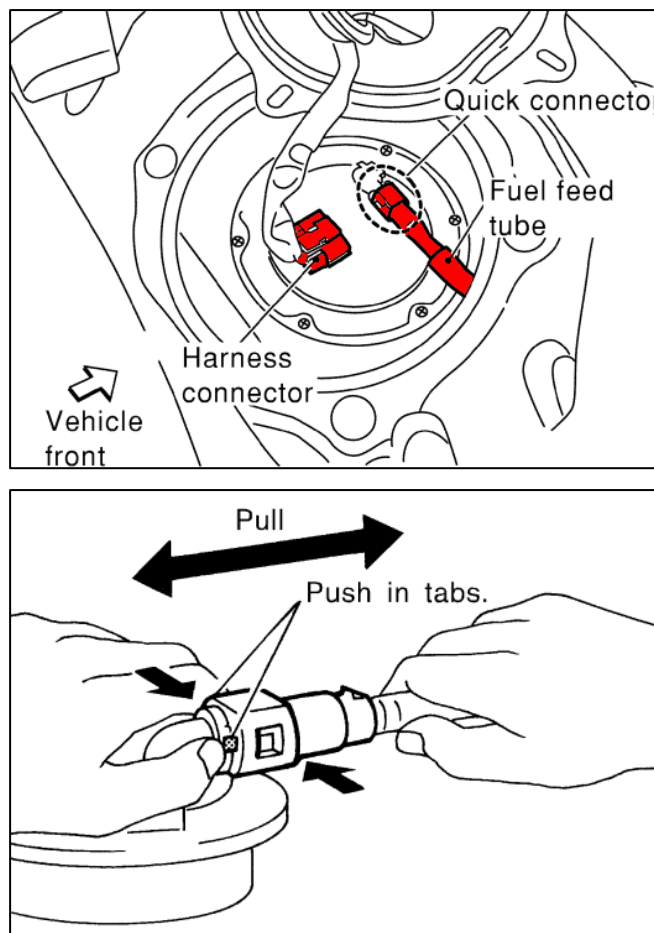

Figure 3
9. Disconnect the Harness and Fuel Feed Tube on the Top Hat of the Fuel Sending unit. To disconnect the Quick Connector, push in the tabs on the side of the Connector then pull out the Fuel Feed Tube. *Figure 3.*